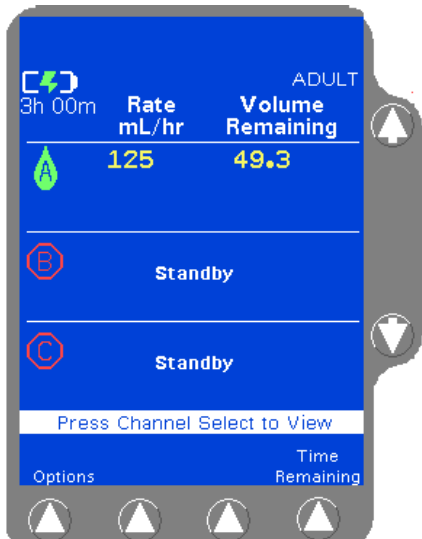

Figure 4-92 New Rate Running
4. Press the **START** key to begin infusing at the new rate (Figure 4-92). If the **START** key is not pressed, the pump continues infusing at the previous rate.